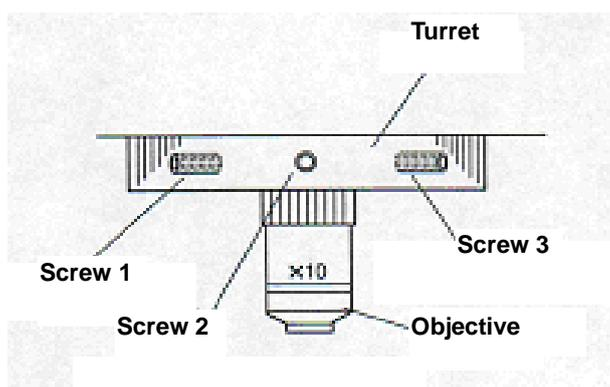

Figure 6-11 Adjust the Screw
5. Press the paper running key and put paper into the paper inlet. After the paper comes out of the paper outlet, you can release the paper running key. Refer to Figure 6-11.
If the off-center is within the view field, you can adjust it according to the following instruction. Refer to Figure 6-11.